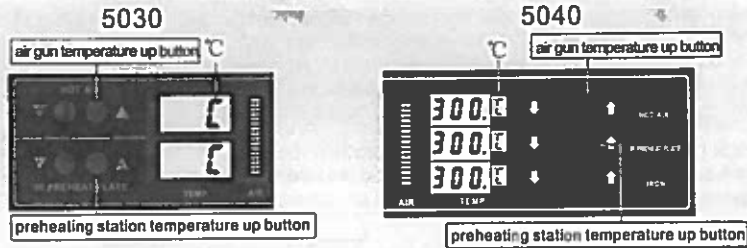

Figure 3
2. Celsius/Fahrenheit display the conversion feature setting (Figure 3)